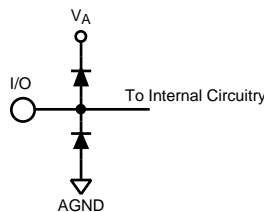

Figure 2.
- (1) The inputs are protected as shown below. Input voltage magnitudes above V_A or below GND will not damage this device, provided current is limited per Note 4 of the Absolute Maximum Ratings Table. However, errors in the A/D conversion can occur if the input goes above 2.6V or below GND as described in the Operating Ratings section. See Figure 2.
- (2) With a full scale differential input of $2V_{P-P}$, the 14-bit LSB is $122.1\text{ }\mu\text{V}$.
- (3) Typical figures are at $T_A = 25^\circ\text{C}$ and represent most likely parametric norms at the time of product characterization. The typical specifications are not ensured.
- (4) Parameters specified in dBFS indicate the value that would be attained with a full-scale input signal.
- The inputs are protected as shown below. Input voltage magnitudes above V_A or below GND will not damage this device, provided current is limited per Note 4 of the Absolute Maximum Ratings Table. However, errors in the A/D conversion can occur if the input goes above 2.6V or below GND as described in the Operating Ratings section. See Figure 2.
- (2) With a full scale differential input of $2V_{P-P}$, the 14-bit LSB is 122.1 μV .
- (3) Typical figures are at $T_A = 25^\circ C$ and represent most likely parametric norms at the time of product characterization. The typical specifications are not ensured.
- (4) This parameter is ensured by design and/or characterization and is not tested in production.
- (5) I_{DR} is the current consumed by the switching of the output drivers and is primarily determined by load capacitance on the output pins, the supply voltage, V_{DR} , and the rate at which the outputs are switching (which is signal dependent). $I_{DR} = V_{DR}(C_0 \times f_0 + C_1 \times f_1 + \dots + C_{13} \times f_{13})$ where V_{DR} is the output driver power supply voltage, C_n is total capacitance on the output pin, and f_n is the average frequency at which that pin is toggling.